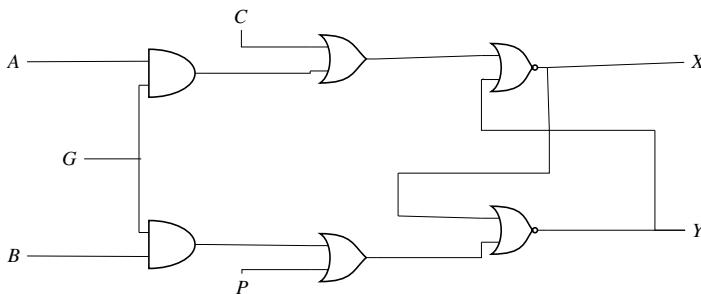

Fig. 3.40
58. For the following circuit Fig. 3.40, the correct logic values for the entries  $X_2$  and  $Y_2$  in the truth table in Table 3.8 are (PH2019,36)